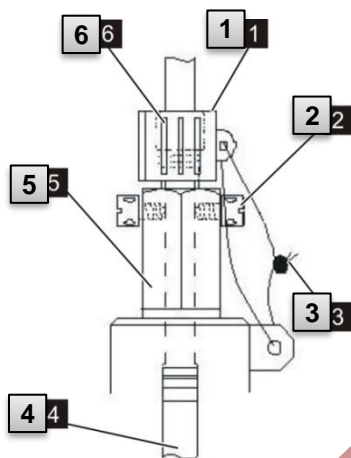

Fig. 12
3. Have a calibration officer seal the temperature sensor using the sealing sleeve **1** and the wire seal **3** as per Fig. 12.